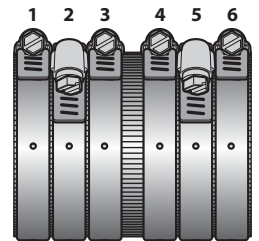

Figure 17
8.9.2. For sizes 5", 6", 8", 10", 12" and 15" tighten the inner clamps 3 and 4 alternately in 20 inch-lb increments until the recommended 80 inch-lb is reached. Then tighten middle clamp 2 and 5 alternately in 20 inch-lb increments until the recommended 80 inch-lb is reached. Then tighten outside clamps 1 and 6 alternately in 20 inch-lb increments until the recommended 80 inch-lb is reached (See Figure 17).